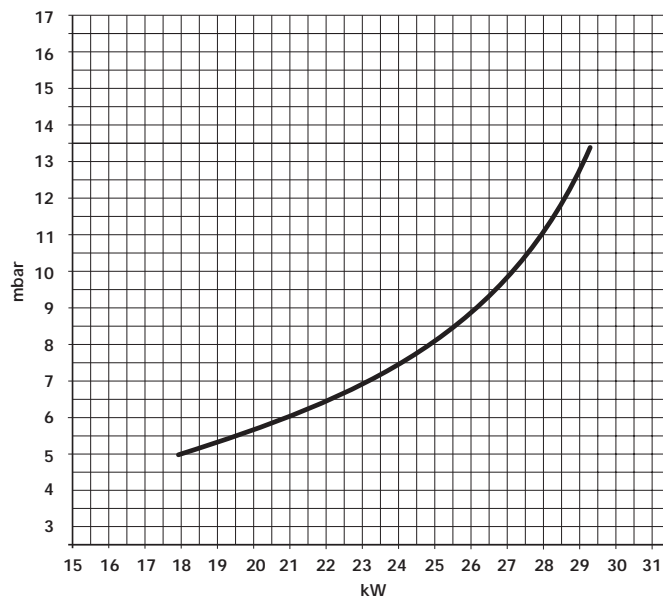
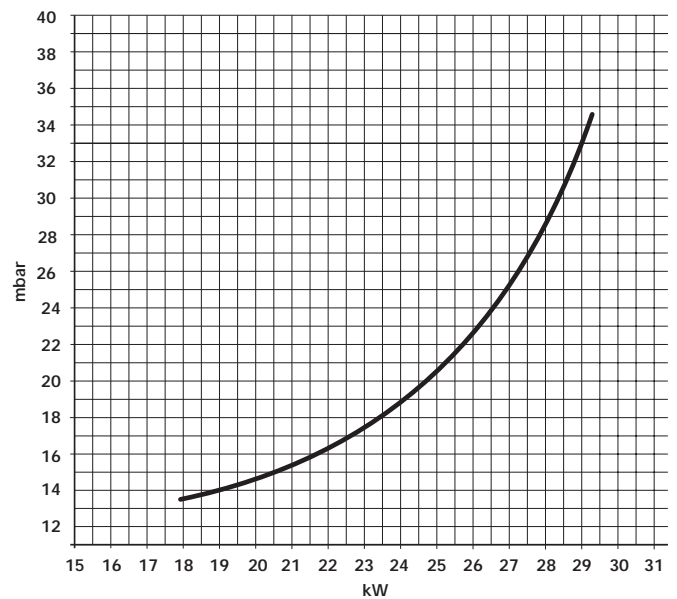

Fig. 42a
Fig. 42b
The diagrams indicate the variation in heat output to the water as burner working pressure is varied (fig. 42a and 42b).
7) If inlet working pressure is ok using the test point on the gas valve marked OUT check the burner pressure. Burner pressures for the required heat output can be obtained from fig. 42a for natural gas and fig. 42b for LPG.